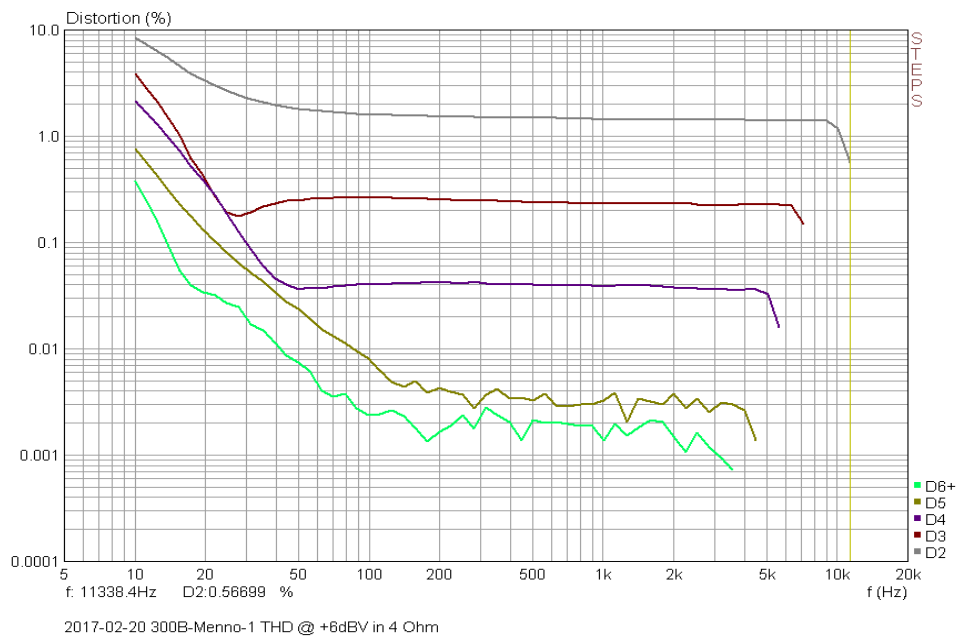
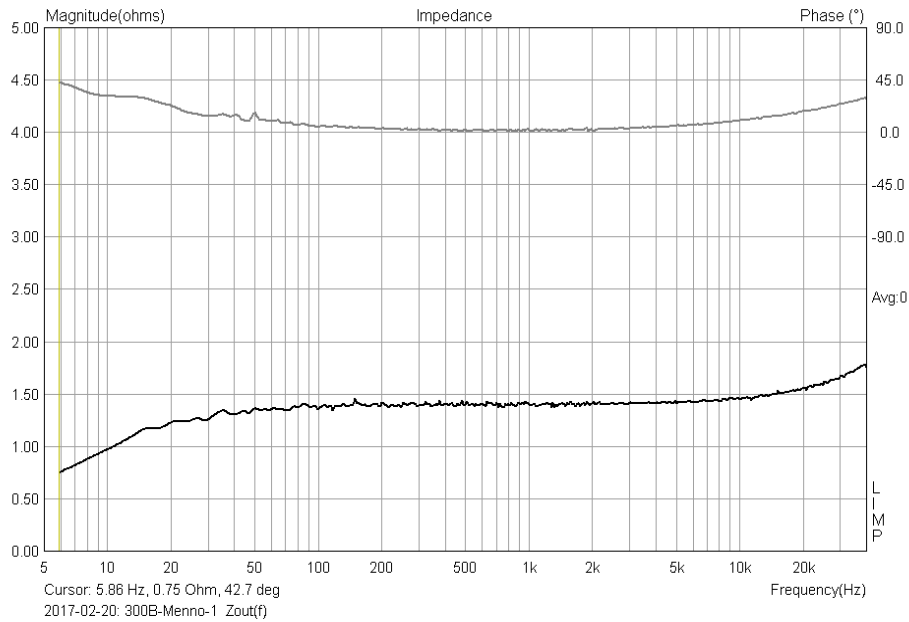

Figure-4: harmonics at 1 W in 4 Ohm
Figure-5: output impedance (lower curve) at 4 Ohm tap.
Why do I mostly measure at 1 Watt in 4 Ohm? I use horn speakers (made by Giuseppe Maino in Rome) with a sensitivity of 97 dBspl/1W,1m. With 1 Watt power I already have a loudness of 97 dBspl, which is loud. Mostly I will listen below this level. So, I measure at the level where I am listening, not at super output powers. The harmonic spectrum (figure-4) nicely follows the masking curve of our ear. The frequency range extends without any resonance to -3dB at 70 kHz. The OPT alone, driven by a 800 Ohm voltage source, extends to -3dB at 100 kHz without any ringing, which is excellent. Figure-5 shows at lowest frequency the starting shrinking impedance of the primary inductance L_p (12), while at highest frequencies the onset of the influence of the leakage inductance L_{sp} is just visible. (Remark: you do not see C_{ip} here, because that would cause a Z-out decline).